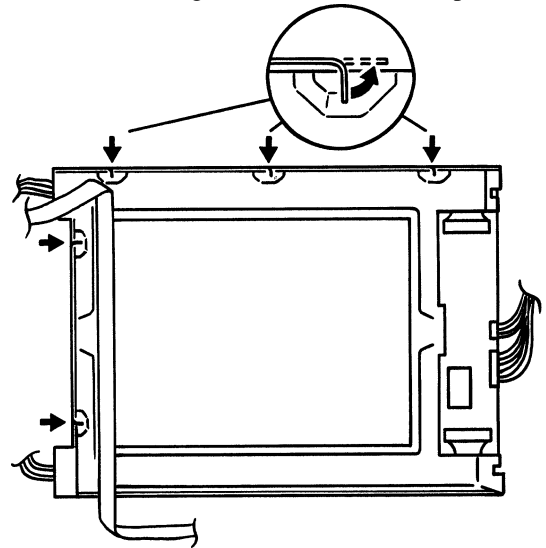

Figure A1.2.3b Display removal (2)
- d Referring to figure A1.2.3b, turn the unit over, and straighten the five metal lugs. This allows the two parts of the metal frame to be separated.